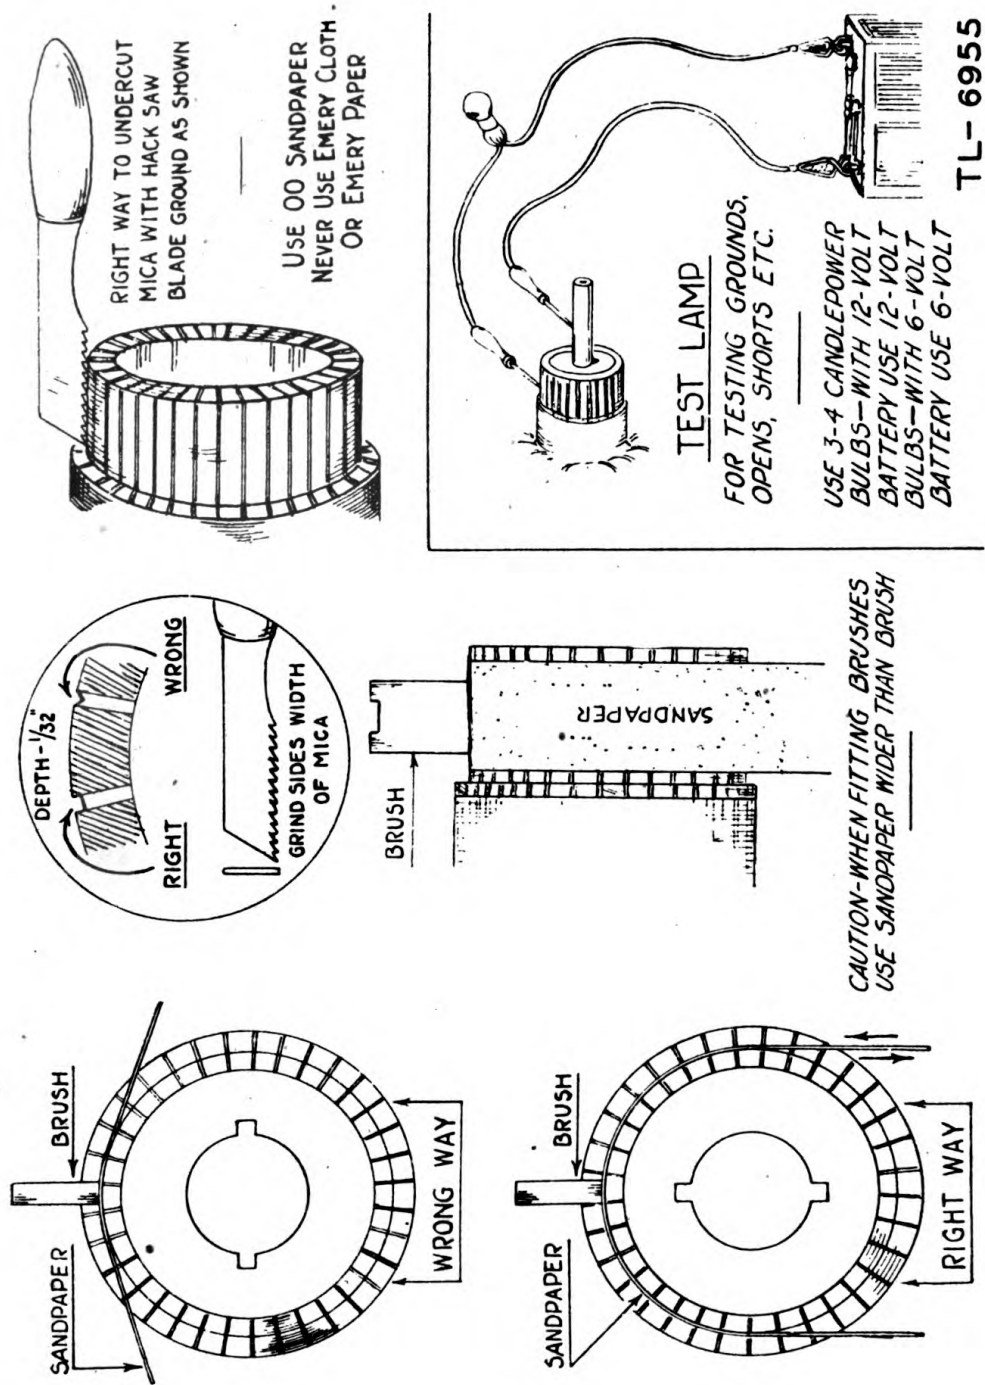

Figure 10.—Brush and commutator servicing
*f.* Mica is used for insulation between the commutator segments. When the armature is constructed, the mica is cut away, or under cut, to a depth of about 1/32 inch below the surface of the segments. In time, the segments will wear down to the level of the mica. If the mica is even with, or projects above, the commutator segments, it should be cut away (under cut) to a depth of about 1/32 inch (see figure 10). A broken hack saw blade, with the sides ground to the width of the mica, is a good tool for this purpose.
*i.* To fit new brushes, or reseal old ones, cut a strip of No. 00 sandpaper the width of the brush. Insert the sandpaper with the brush resting on the sanded surface and pull it in the direction of rotation. Do not pull it back and forth. Repeat this operation until the brush is properly seated. See figure 10. The spring tension should be sufficient to press each brush against the commutator with uniform tension. It is very important that each brush have an equal pressure. If one of the springs is too weak, the opposite brush will have to take more than its share of the load, and sparking and damage to the commutator and collector rings will result. NOTE: In general, the above instructions also apply for the battery-charging generator.